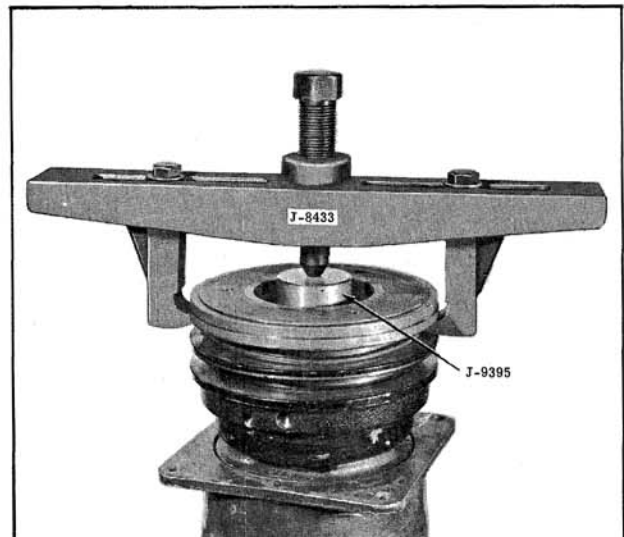

Fig. 14-88 Removing Pulley and Drive Plate
2. Insert Pilot J-9395 over shaft then remove pulley with Puller J-8433. (Fig. 14-88)